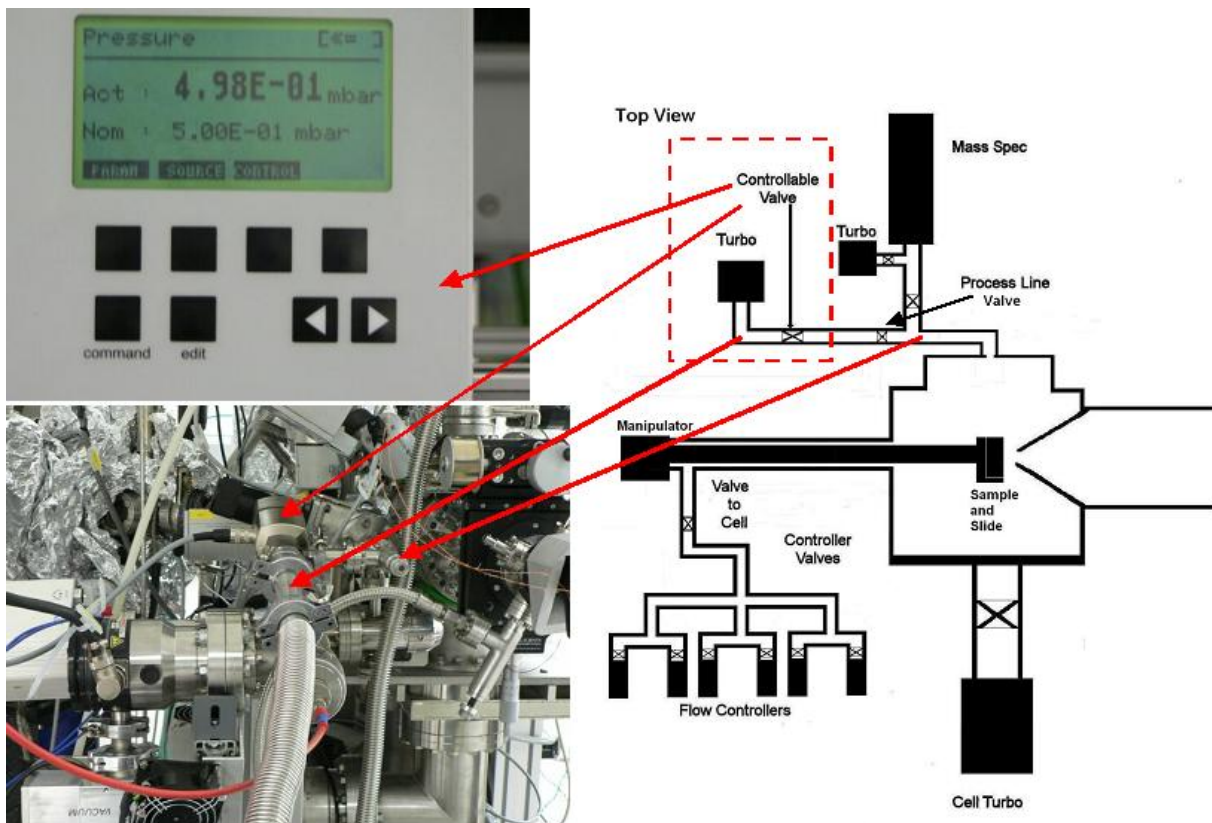

Figure 8: Process line (top view, red box)
Between 10^{-3} and 1mbar the best way to control the pressure is the use of the controllable valve in the process line (**Fig. 8, red box**).
3. **Third step:** To set the proper ratio for a gas mixture or a single gas the mass flow controllers have to be preset (see Setting the gas flow). Then you can set the desired pressure with the electronics of the controllable valve in rack 1 (top left, just above the pressure readings; see also **inset in Fig. 8**):